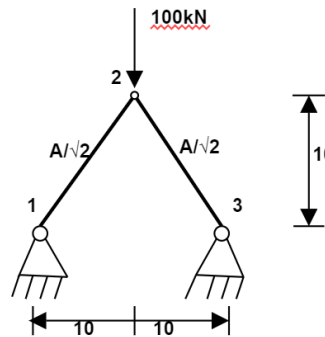

Figure 4
- (b) Determine the force vector and displacement matrix for the following truss shown in Figure 4,  $E = 200 \text{ kN}/\text{mm}^2$ , The reference area is  $A = 100 \text{ mm}^2$ . [7M]